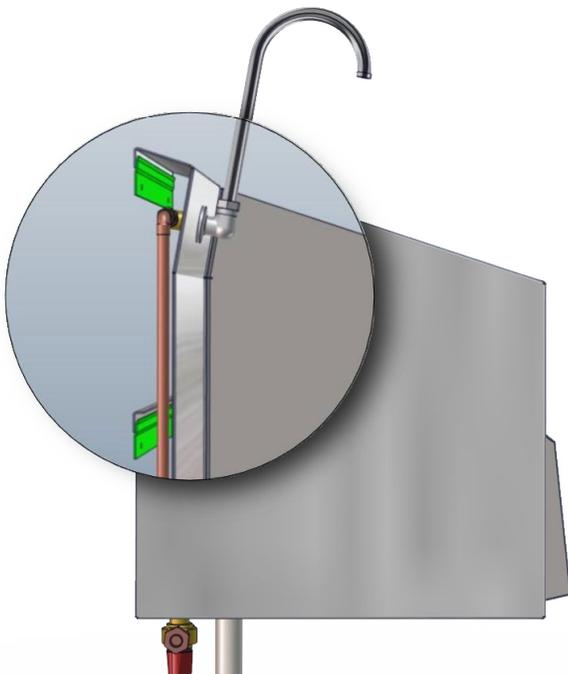

Fig. 5: Cross Section Showing Z Bracket Locations
- A. With the help of an assistant, slide the sink over the Z bracket(s) until it locks securely into place (Figs. 5 - 6, Z brackets shown in green).